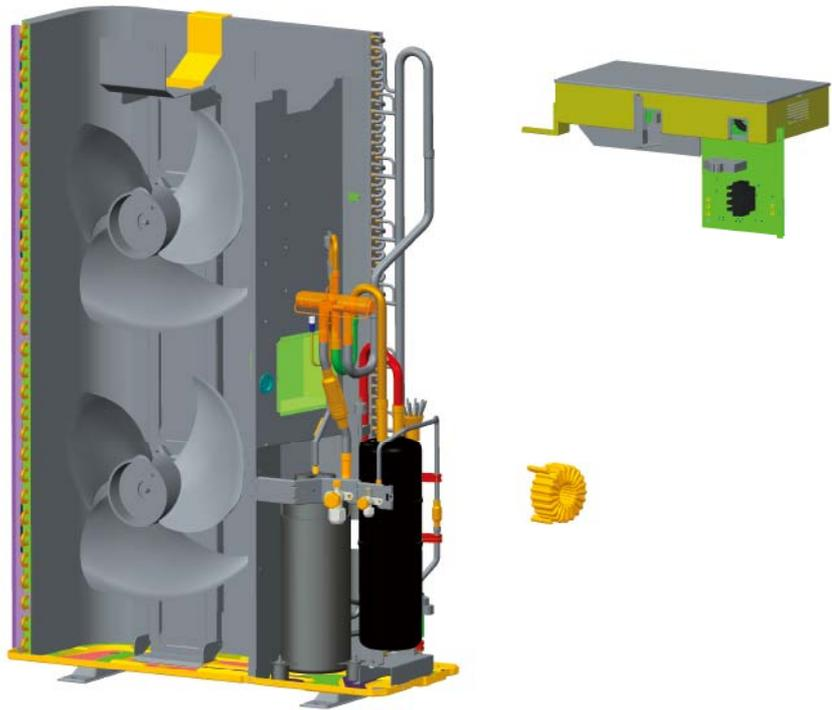

Fig.8
• Loosen the two tapping screws, and remove the electric box assy .[See Fig. 8]